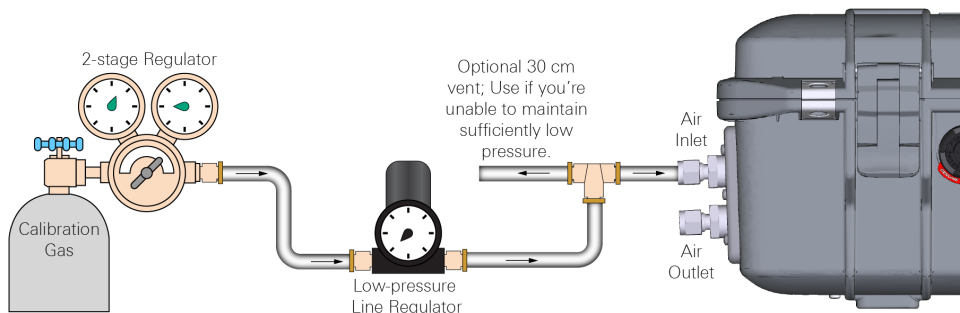

Figure 6-1. Plumbing configuration for calibration gases. Use a low pressure regulator to reduce pressure and a 30 cm vent to avoid pressurizing the inlet.
- 2 Plumb a gas to the air inlet as shown in *Figure 6-1* on the previous page.
- 2 Plumb a gas to the air inlet as shown in *Figure 6-1* on page 6-1.